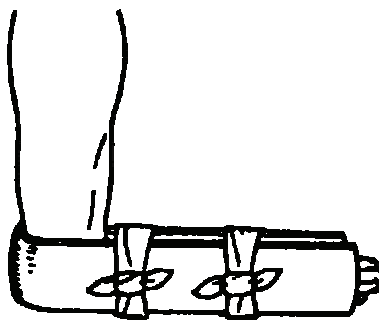

Figure 3-15. Splint with the limb
- a. If you are applying the splint to a forearm or wrist, position it so the bend is at the elbow and the fracture is between the two sides of the splint. Refer to Figure 3-15.